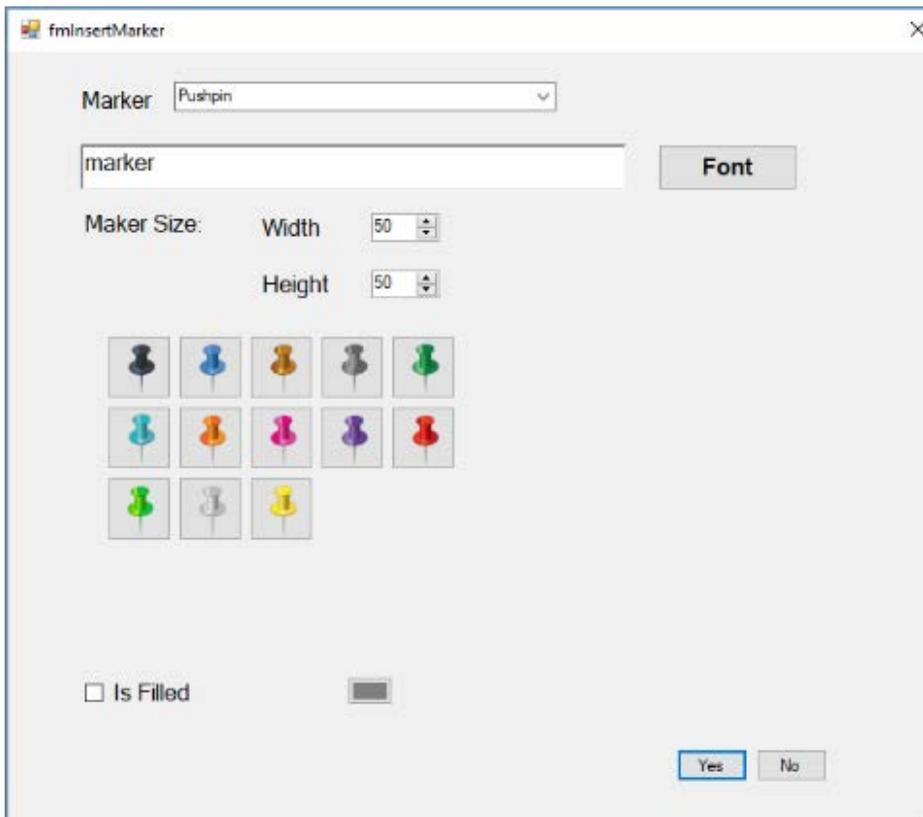

Figure 4-6. Form to insert a marker.
In the Insert menu, click Marker and then click a point in the window where you want to insert the marker. A form will appear (Figure 4-6).
- Format the marker. Double-click the shape to bring a format form (Figure 4-6).